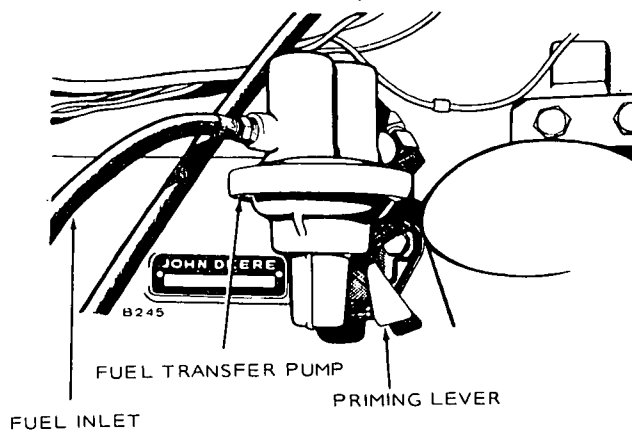

FIGURE 18. PRIMING FUEL SYSTEM
1. Loosen bleed plug on top of fuel filter. Pump primer lever (Figure 18) until a solid stream of fuel, free of air bubbles, flows from bleed plug.